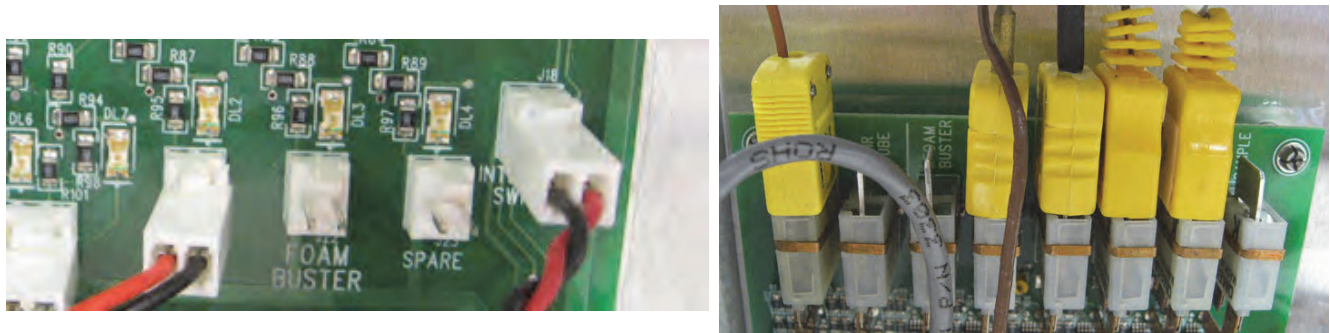

Figure 8.15. Plugging in the Foam Buster heater thermocouple wires
9. Plug the Foam Buster heater and thermocouple wires into the I/O board. Plug the heater into J22. Remove the thermocouple jumper from J5 and plug in the thermocouple (Figure 8.15).